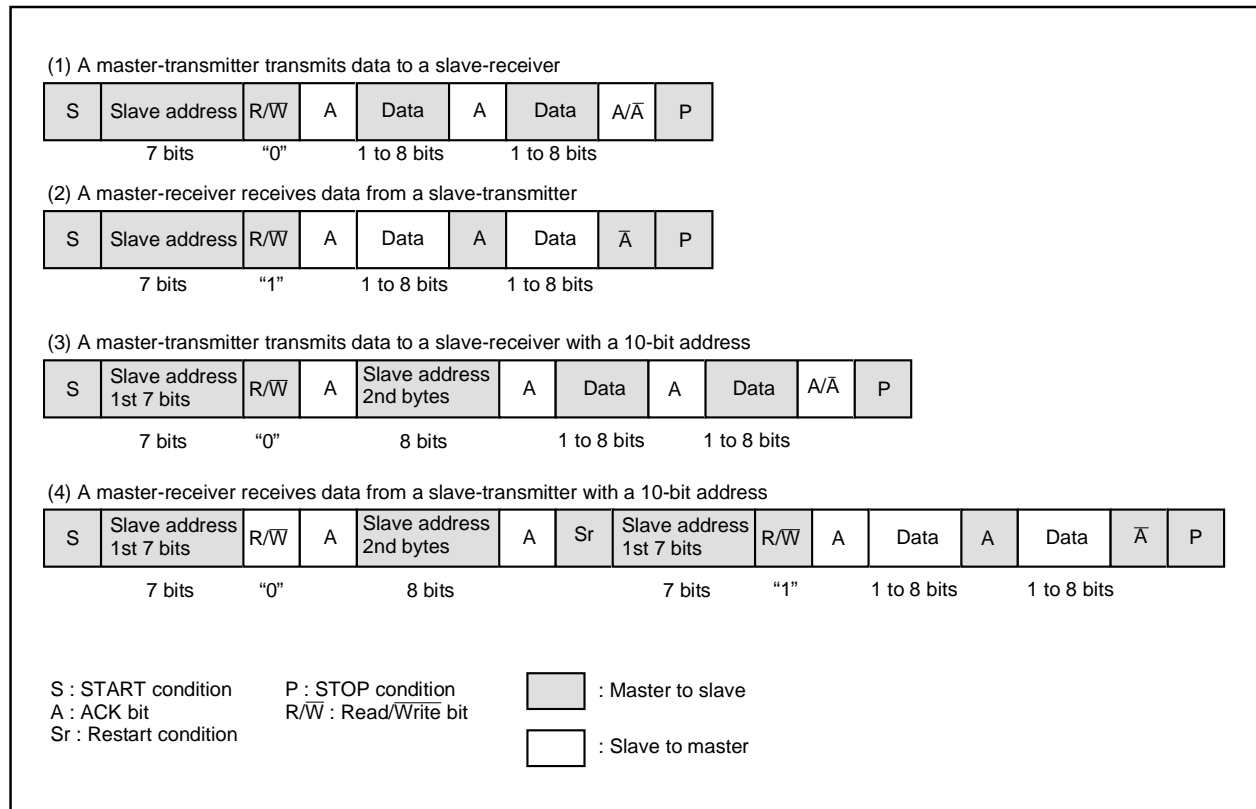

Fig. 77 Address data communication format
parison, an address comparison between the RWB bit of the I²C slave address register and the $\overline{R/W}$ bit which is the last bit of the address data transmitted from the master is made. In the 10-bit addressing mode, the RWB bit which is the last bit of the address data not only specifies the direction of communication for control data, but also is processed as an address data bit. When the first-byte address data agree with the slave address, the AAS bit of the I²C status register (S1: address 0013₁₆) is set to "1." After the second-byte address data is stored into the I²C data shift register (S0: address 0011₁₆), perform an address comparison between the second-byte data and the slave address by software. When the address data of the 2 bytes agree with the slave address, set the RWB bit of the I²C slave address register to "1" by software. This processing can make the 7-bit slave address and R/W data agree, which are received after a RESTART condition is detected, with the value of the I²C slave address register. For the data transmission format when the 10-bit addressing format is selected, refer to Figure 77, (3) and (4).